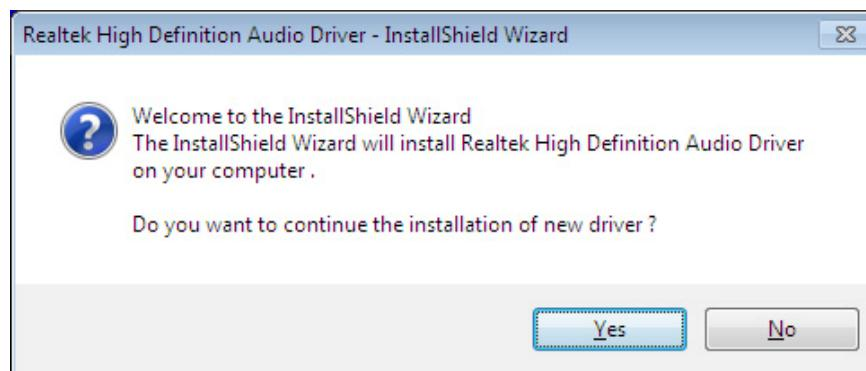

Figure 6-20: Audio Driver Installation Welcome Screen
Step 5: The Audio Driver Installation screen in **Figure 6-20** appears. Click **Yes** to install the audio driver.